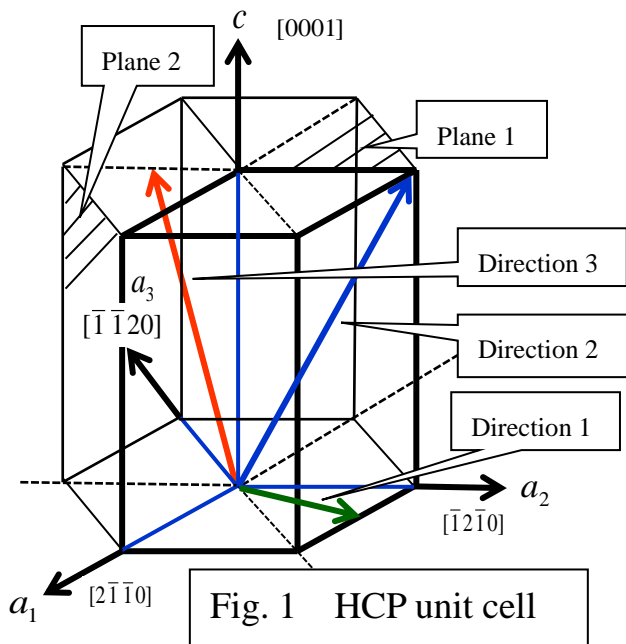

Fig. 1 HCP unit cell
- (i) List the indices of two planes and three directions in Fig. 1.